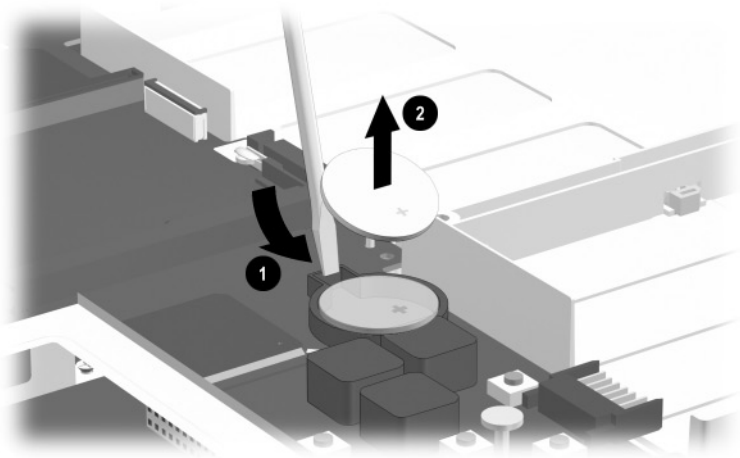

Figure 5-22. Removing the Disk Cell RTC Battery
2. Lift up the back edge of the RTC battery and remove it from its socket on the system board (Figure 5-22).